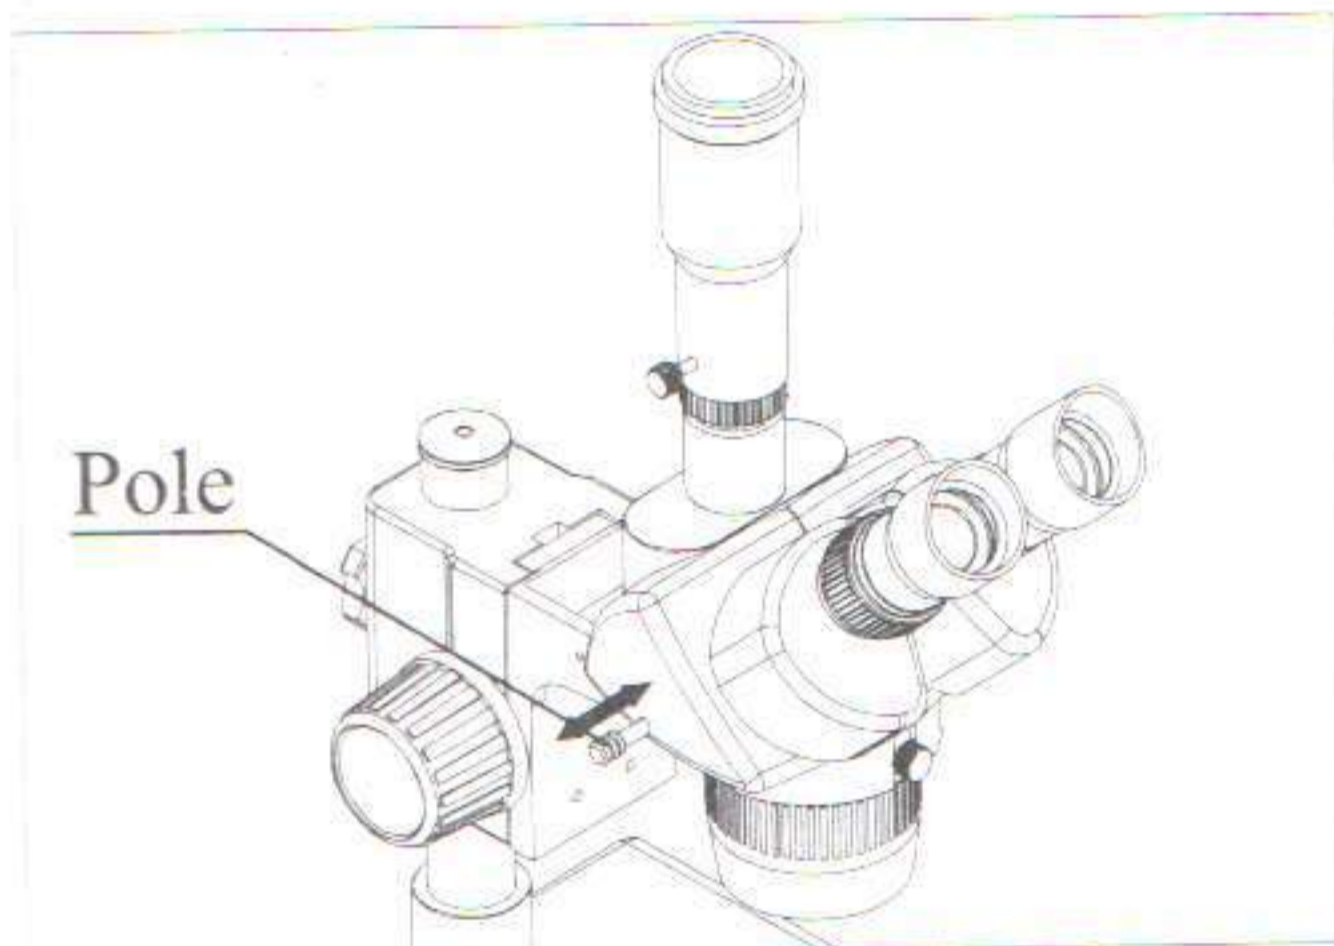

Fig. 7
- 1) You can alternate the binocular observation and video capture by pushing or pulling "the pole". You can attain binocular observation by pushing "the pole" inside, or attain video capture by pulling it outside. (Fig. 7)